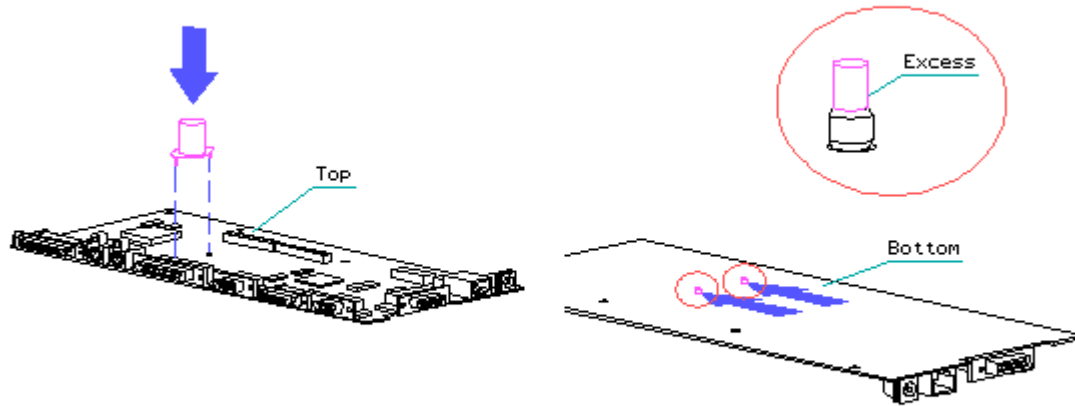

Figure 4-16. Installing the Power Button
10. Install the new power button by feeding the tethers through the hole in the interface board, pulling on the tethers to pull the enlarged area through the hole, and then snip off the excess from the tethers on the under side of the interface board (Figure 4-16).